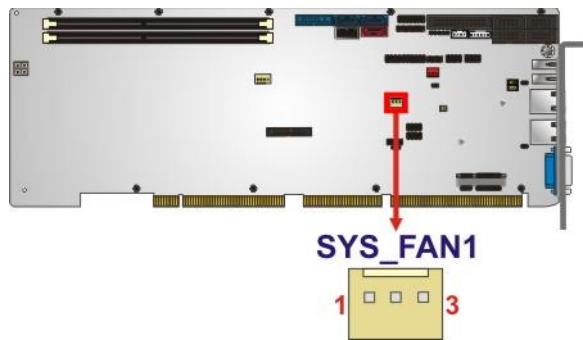

Figure 3-11: System Fan Connector Location
- CN Location:    See **Figure 3-11**